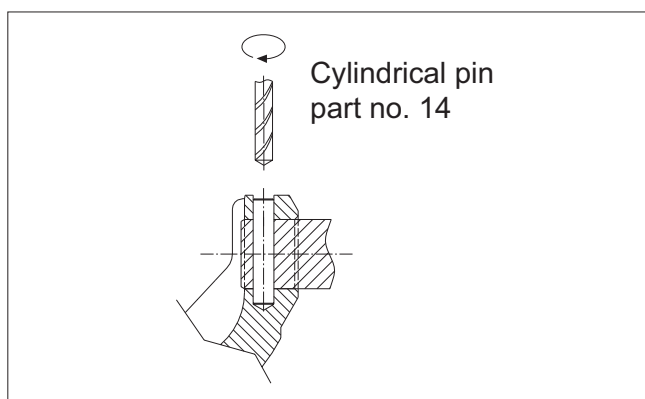

Fig. 19 Drilling the pin
- a) carefully drill a 2 mm hole that is 10...12 mm deep to both pins (14) and remove the pins (14), shaft (12) and drive shaft (11),
- b) in the new versions where the pin drilling is made through the ball remove the pin locking made with centre punch carefully by drilling, turn the ball 180 degrees and push the pins via the hole. See Fig. 19.
- a) Carefully drill a 2 mm hole that is 10...12 mm deep to both pins (14) and remove the pins (14), shaft (12) and drive shaft (11).
- b) If the pin drilling is made through the ball, remove the pin locking made with centre punch carefully by drilling. Turn the ball 180 degrees and push the pins via the hole. See Fig. 19 and 21